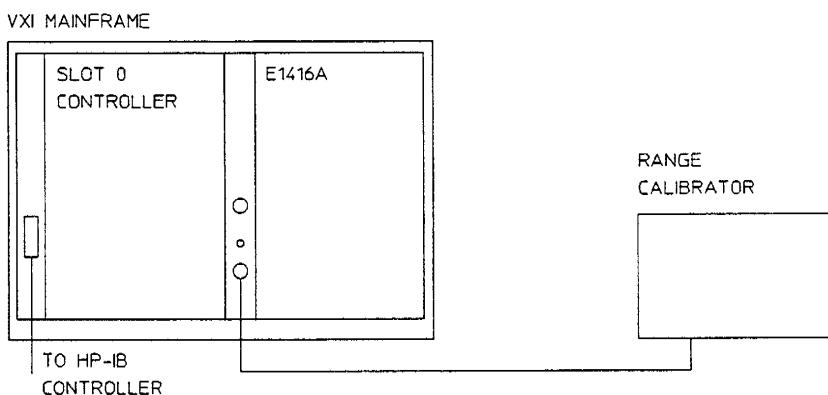

Figure B-1. Zero Carryover Test Setup
1. Connect the equipment as shown in Figure B-1, and switch on all the equipment.